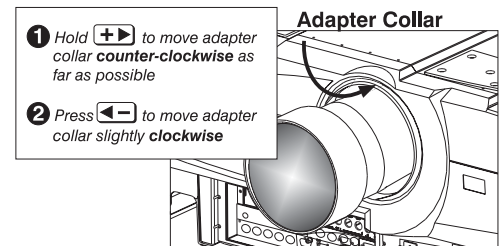

Figure 4.12. Adjust adapter collar using “Zoom” control
f) **ADJUST THE ADAPTER COLLAR:** Press **[Lens]** to display the *Lens Control* menu. Then adjust as follows (see Figure 4.12):